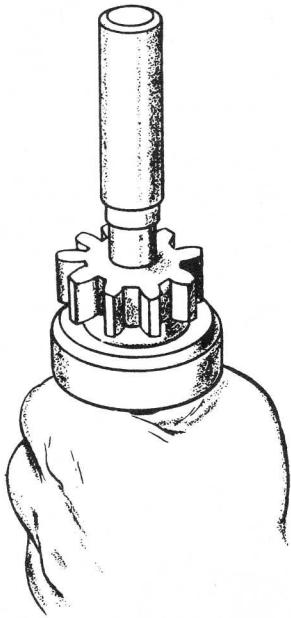

FIGURE 17 Removing Ring
4. Remove the ring after driving the pinion stopper toward the pinion gear using a cylindrical tool as shown in Figure 17. The overrunning clutch and the pinion stopper should be removed simultaneously.